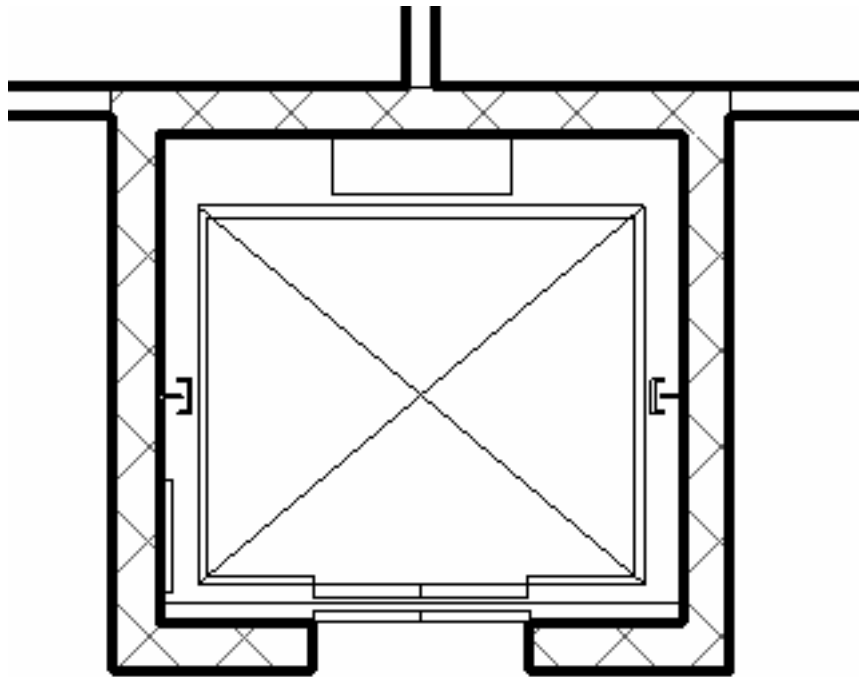

Figure 3-4.8b Elevator door added to plan
22. Place the elevator door at the center of the wall, aligned with the elevator door on the cab (Figure 3-4.8b).